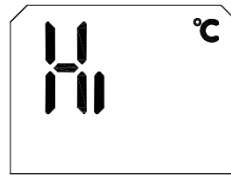

Fig.6
- When the measured value is higher than 42.9 °C, HI is displayed (Figure 6), and send the prompt sound of "Body temperature is too high, invalid measurement";